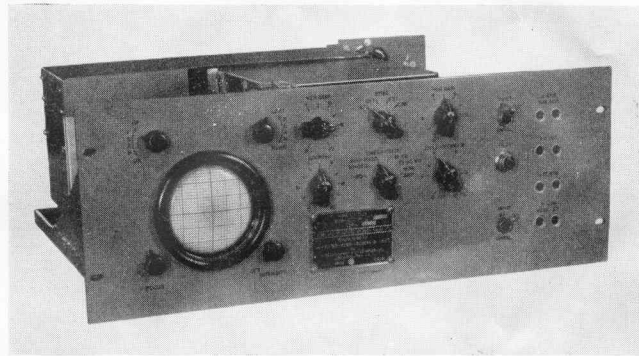

Figure 1-28. Cathode Ray Oscilloscope, Navy Model OBL-3a, Front View
(20) CATHODE RAY OSCILLOSCOPE NAVY MODEL OBL-3 (Figure 1-28).—The Navy Model OBL-3 Oscilloscope is an instantaneous indicating device for making electrical measurements.
(a) POWER SUPPLY NAVY TYPE CRV-20130 FOR RBC RECEIVER (*Figure 1-28*).—The Navy Type CRV-20130 Rectifier Power Unit is designed to operate primarily with a single receiver of the Navy RBB/RBC Receiver equipment, although satisfactory operation of two receivers is possible in an emergency. The circuit includes all necessary provisions for a stable and reliable power supply for the RBB/RBC radio receivers. The Rectifier Power Unit is completely shielded in a metal cabinet and includes filtering for the reduction of A. C. hum and for minimizing interference from local transmitters. The power required for operation of one receiver is 100 watts. Operating voltages are 110/115/120 VAC 55-65 cycles. For more complete information refer to NavShips 900,477. A Rectifier Mounting Shelf Navy Type 10348 is required for mounting this power supply in Cabinet CY-597/G. These items are Government furnished and are not included in the contractor's shipment of equipment.